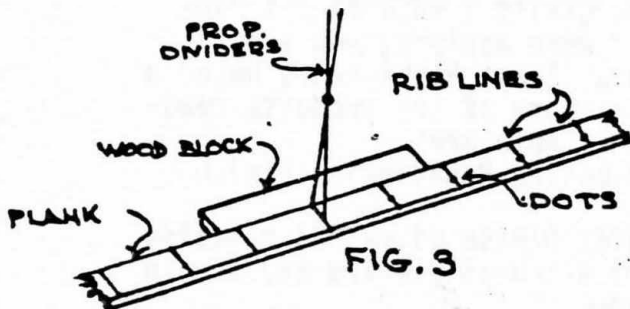

FIG. 3
7. Proportional dividers: Set for the number of planks needed between battens. Example: If six planks are needed set at six. For the second run set at five, etc.. Doing it this way will correct any small error of width automatically. Fit the first plank to the under side of the wale, and cut it to fit the stem rabbet. Mark a vertical line on the plank at the center of each rib. Use the dividers to measure the width of the plank at the center of each rib; holding the dividers with one point pressing slightly into the plank making a small dot. Do this at each rib, and then connect the points or dots with a straight edge using a fine pointed hard pencil. Now sand the edge to the finish line, and glue and dowel the plank into place. The garboard or bottom strake is made in the same manner. I find it helps to place a section of planking against the fitted edge of the strake which provides a firm resting place for the divider point. Work from the wale down, and the garboard strake up, and finish out the planking in the middle. This is the easiest place to fit the last strakes as the planks are nearly all the same width. It will be necessary to bevel the planks slightly at the curved section of the stem and stern to prevent a gap appearing between the strakes. This is easily done with a fine file and sandpaper. (See Fig. 3)